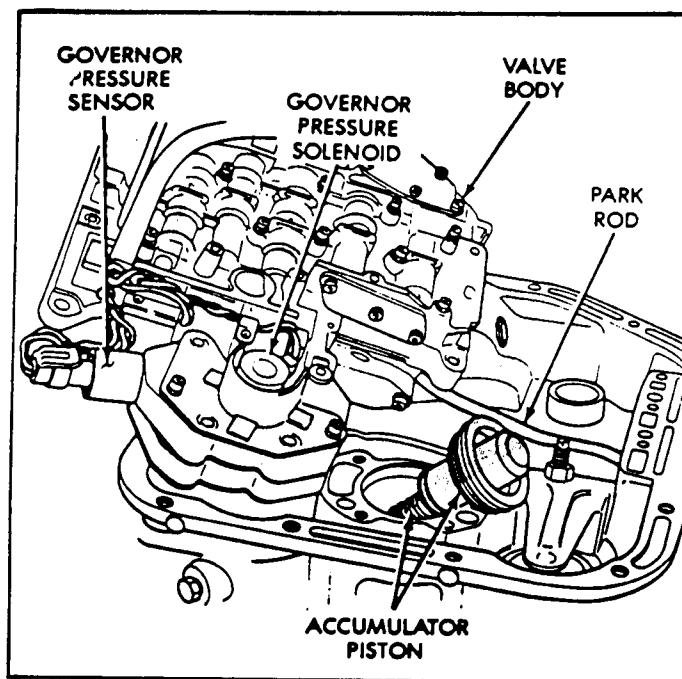

Figure 146
44. Align and carefully insert parking rod in case as shown in Figure 146.